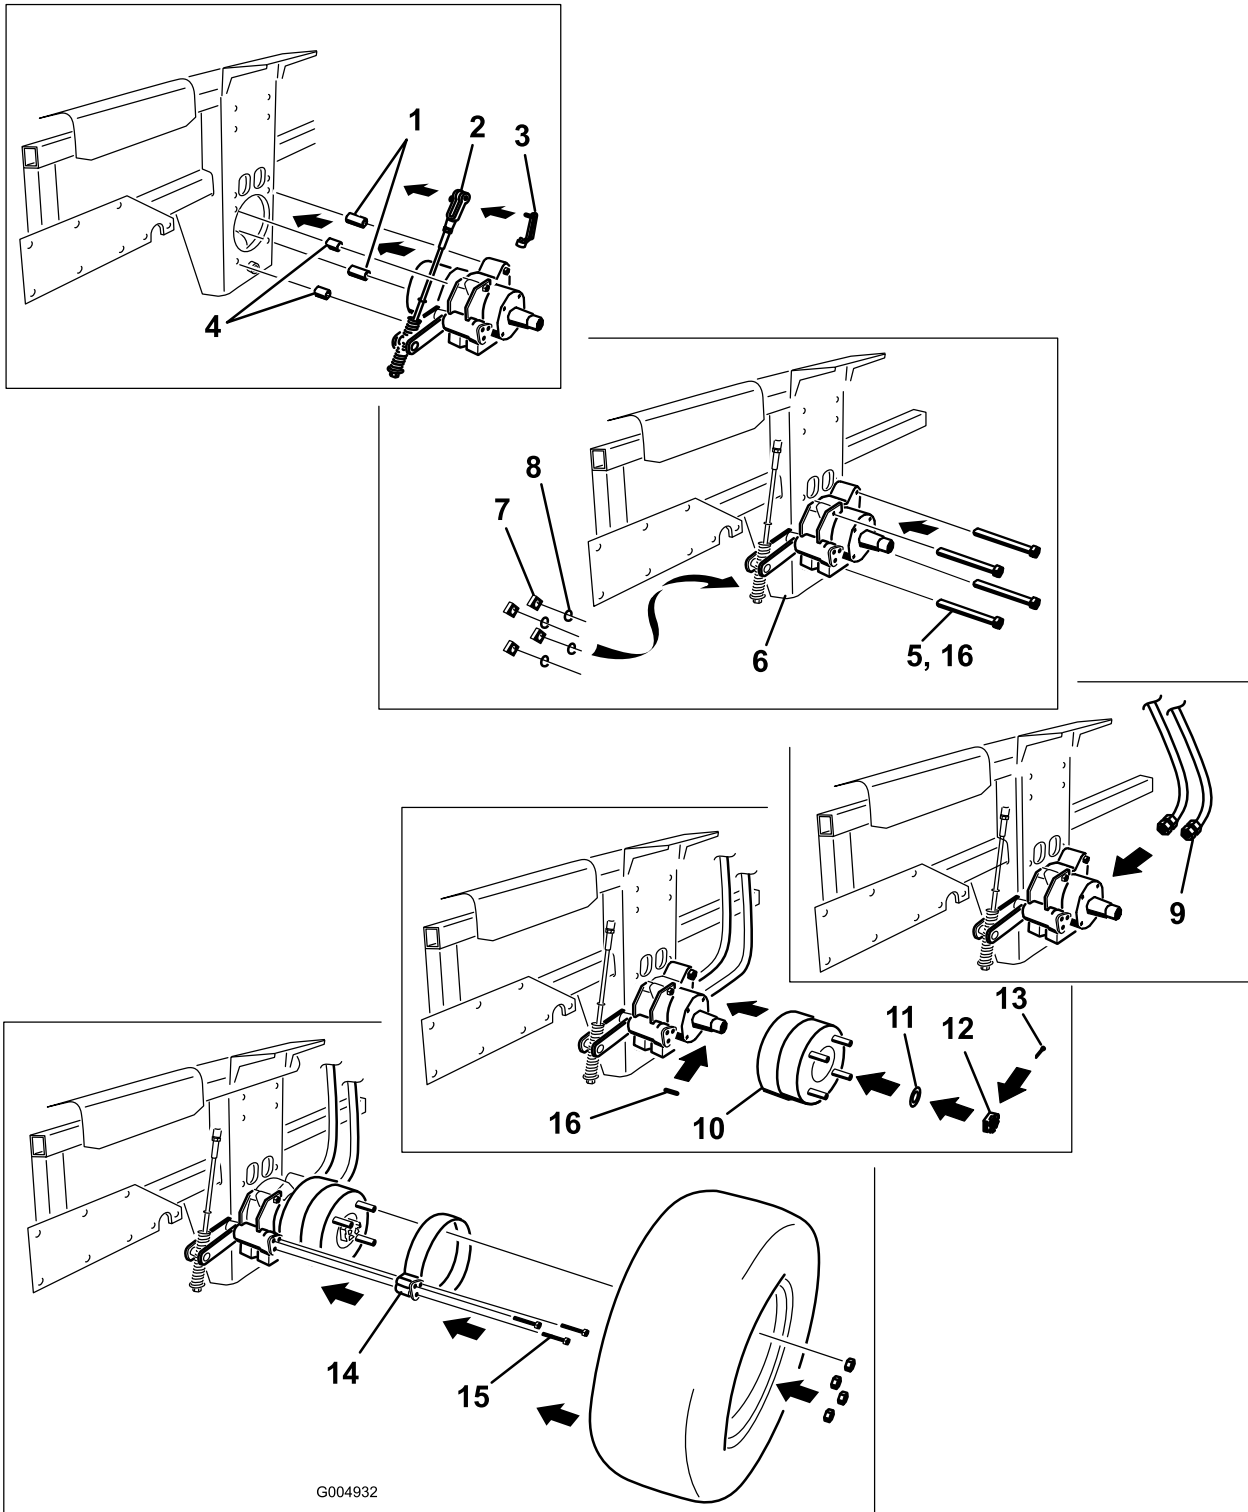

Figure 2
12. Install the wheel motor and brake assembly to the frame with the 2 new short and long spacers, 4 square nuts (1/2 inch), 4 lock washers (1/2 inch) and 4 bolts (1/2 x 6 inches) (Figure 2). Ensure the spacers are installed in the correct position.
14. Connect the hydraulic lines to the wheel motor (Figure 2).
15. Install the wheel hub to the wheel motor with the woodruff key, washer, and slotted nut (Figure 2).
20. Replace the cotter pin (Figure 2).